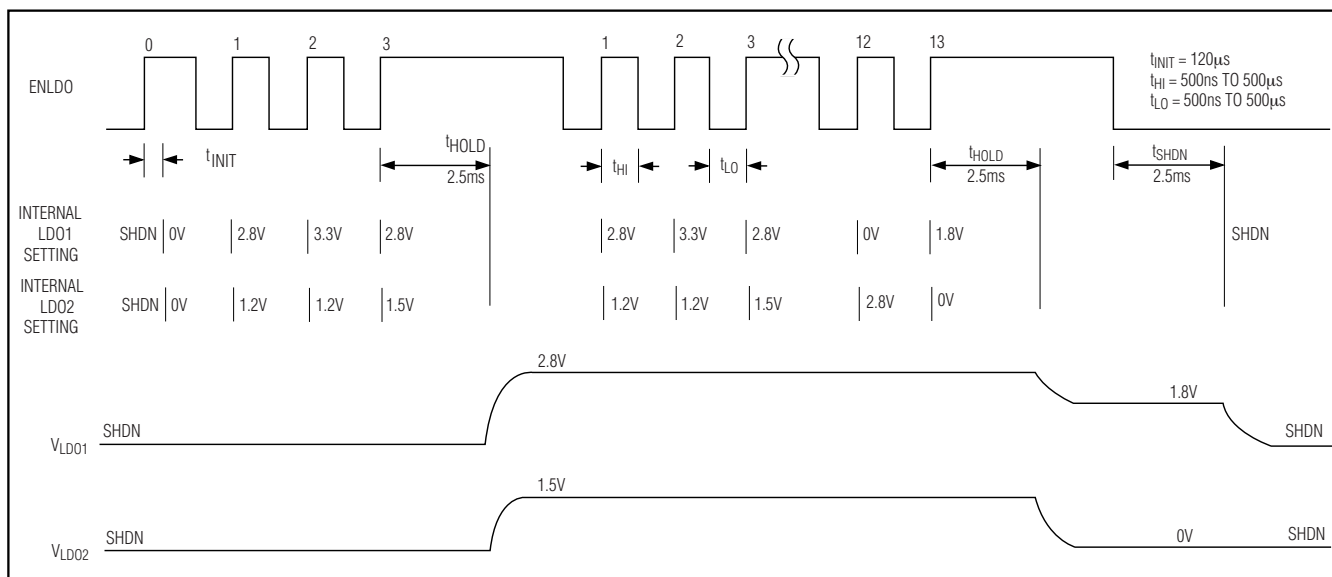

Figure 2. Timing Characteristics for LDO Serial-Pulse Control Interface
**Note 7:** LDO output voltage corresponds to the LDO output voltage programmed by pulsing ENLDO low by the given count and then holding ENLDO high for greater than  $t_{HOLD}$  to set the voltage value. See Figure 2.
Similar to the LED dimming control structure, the MAX8822 uses serial-pulse control to program the output voltages of LDO1 and LDO2 to one of sixteen different combinations. To program the LDO voltages, pulse ENLDO low (500ns to 500μs pulse width), as shown in Figure 2. An internal register accumulates the pulse count on the rising edge of the ENLDO pulse. An initial pulse (tINIT) is required to enable the LDOs from shutdown. See Table 3 for LDO voltage combinations and the corresponding ENLDO pulse count. When the desired pulse count is met, hold ENLDO high for at least 2.5ms (tHOLD) to internally latch the pulse-count value and program the LDO output voltages at the desired level. If ENLDO is pulsed for more than 15 counts, LDO1 and LDO2 are off when the count is